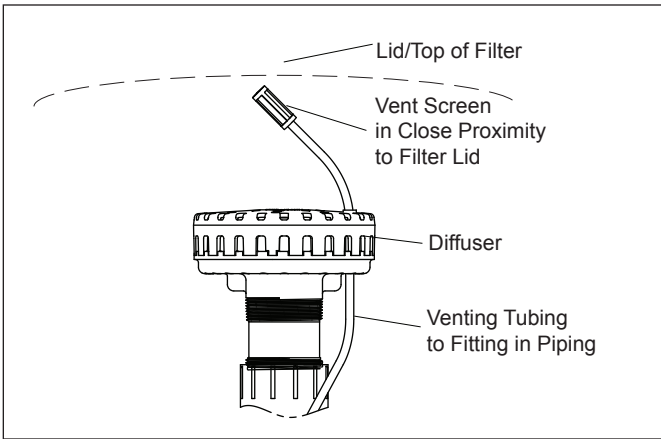

Figure 1. Automatic Vent Positioning
3. Before installing the lid, ensure that the air vent screen at the top of the air vent tubing is properly located above the diffuser such that it will be close to the underside of the lid when the lid is installed. See Figure 1.